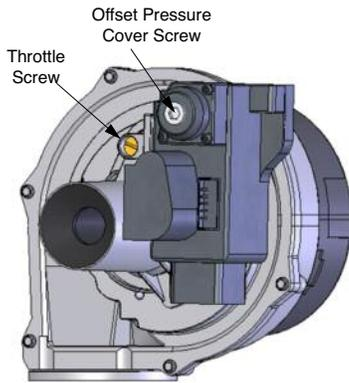

Fig. 7: Combustion Adjustment - Prestige Burner
2. If the combustion levels during high fire is outside the recommended combustion settings adjust the THROTTLE SCREW (see Fig. 7) as follows:
4. If the CO₂ combustion level at low fire is not within +/- 0.2% of the combustion level measured at high fire, remove the offset cover screw and adjust the plastic OFFSET SCREW using a T40 Torx screwdriver (see Fig. 7) as follows:
6. If the combustion levels during high fire (100%) are outside the recommended combustion settings adjust the **THROTTLE SCREW** (see Fig. 7) using a flat-blade screwdriver as follows:
8. If the CO₂ combustion level at low fire (1%) is not within +/-0.2% of the combustion level measured at high fire, remove the offset cover screw and adjust the plastic **OFFSET SCREW** using a T40 Torx screwdriver (see Fig. 7) as follows: